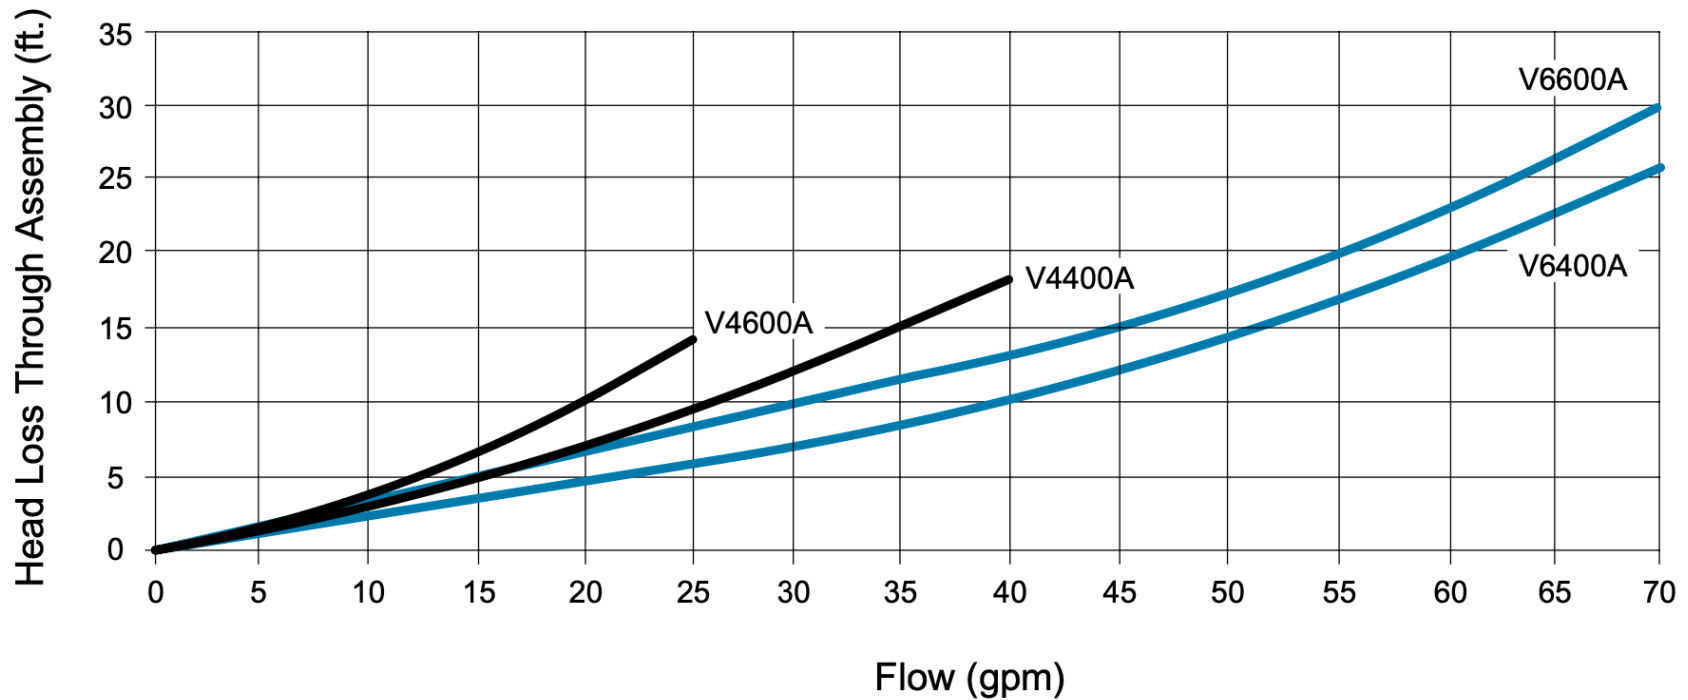

Figure 3:
- Liquid flowing through the valve assembly must pass through fairly small openings and make several changes in direction. Because of this, headlosses through the valve assembly are fairly high. Table 1 gives the headloss equations for several different assemblies and Figure 3 shows the graphical representations of these equations. Orenco recommends that high-head turbine pumps be used to pressurize the valve assemblies to ensure enough head is available for proper system operation. High-head turbine pumps are also recommended because the use of a distributing valve usually requires more frequent pump cycling. The high-head turbine pumps are designed for high cycling systems and will outlast conventional effluent pumps by a factor of 10 or more in a high cycling mode. Furthermore, the high-head turbine pump intake is 12 inches or more above the bottom of the pump and tends to prevent any settled solids from being pumped into the distribution valve and obstructing its operation. A minimum flow rate through the distributing valve is required to ensure proper seating of the rubber flap disk. Minimum flow rates for the various models are given in Table 1.